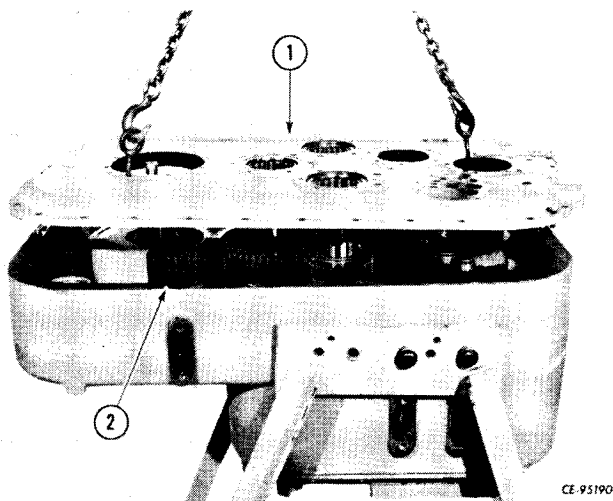

Figure 4-25
Remove cover attaching bolts and insert three of the bolts in jack screw holes provided to raise cover (1, Fig. 4-25) off dowels. Attach a chain to cover and remove cover and gasket (2). Discard gasket.